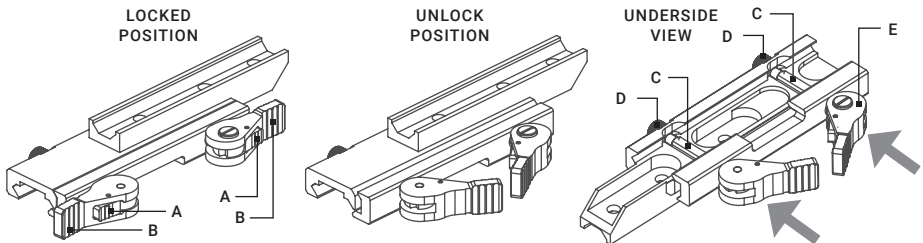

FIGURE 2-4. MOUNT
1. Unlock the clamping device of the scope mount by pushing down on the lever holders (A, see Figure 2-4) and unlocking the levers (B).
2. Install the scope on the Picatinny/ Weaver rail so that the stops (C, see Figure 2-4) slides into the transverse slots on the rail.
3. Affix the scope to the rail by locking the levers (B, Figure 2-4).
2. With the clamping device unlocked (as shown in Figure 2-4), push the cam (E) towards the arrow, which will cause the nut (D) to slide out of its hole.
3. To tighten/ loosen the clamping device, push down on the cam (E) and turn the nut (D) CW/ CCW respectively, in one-two increments (see note below). Much like when the cam (E) is released, backward-moving springs will cause the nut (D) to slide back into its hole.